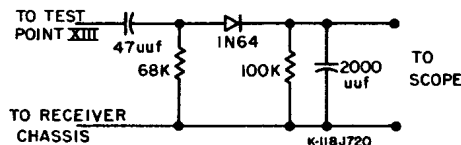

FIG. 3 DETECTOR NETWORK
3. Connect the detector network, Figure 3, to Test Point XIII. Connect a scope to the network.